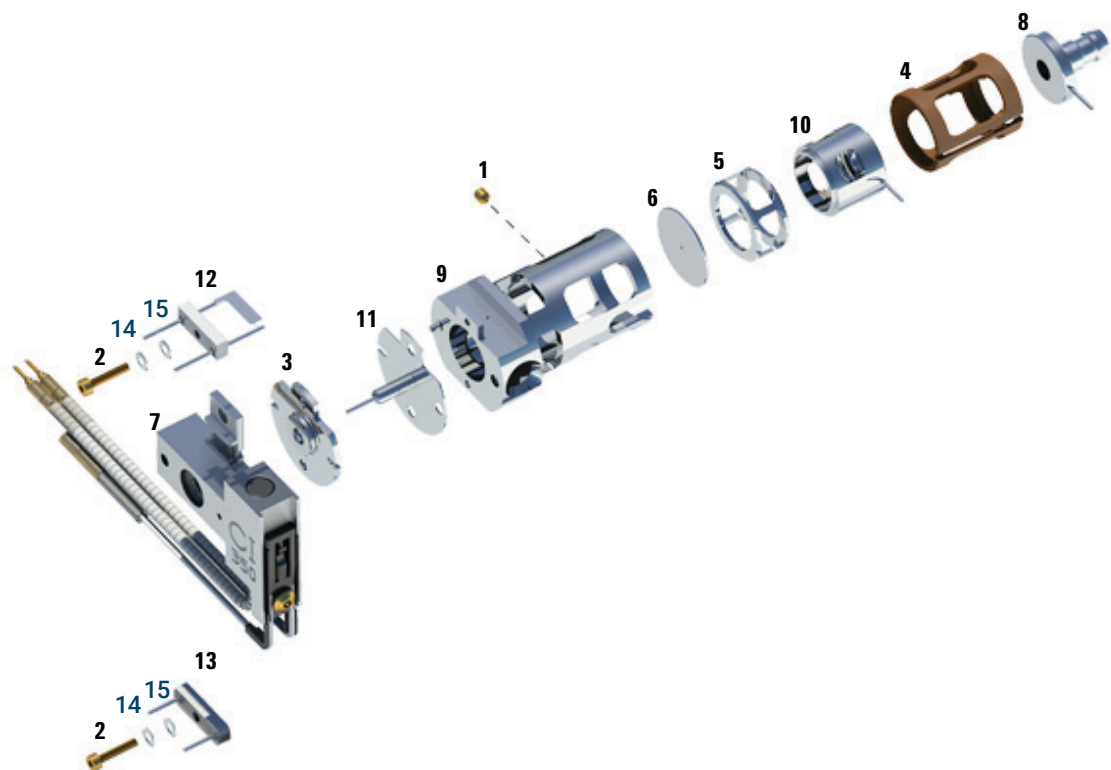

Figure 77. Disassembling the CI source
Refer to the exploded parts view and the CI source parts list while using this procedure. (See **Figure 77** and **Table 19** on page 230.)
- 3 Separate the source heater assembly from the source body. The source heater assembly includes the source heater, repeller, and related parts. (See **Figure 77** and **Table 19** on page 230.)
- 4 Disassemble the repeller assembly by removing the ceramic insulator from the repeller. (See **Figure 77** on page 230.)
- 6 Pull the lenses out of the source body and separate the lens insulator, ion focus lens, drawout cylinder, drawout lens, and entrance lens. (See **Figure 77** on page 230.)
Table 19 Parts list for CI source (Figure 77)
Table 19 Parts list for CI source (Figure 77) (continued)